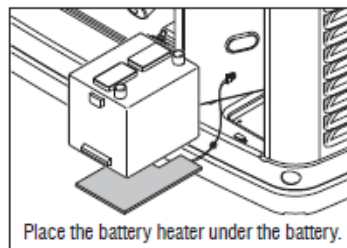

Figure 2
4. Using a clean towel, wipe the bottom of the battery to remove any dirt, oil, or other contaminants. Install battery heater by placing underneath battery (Figure 2).